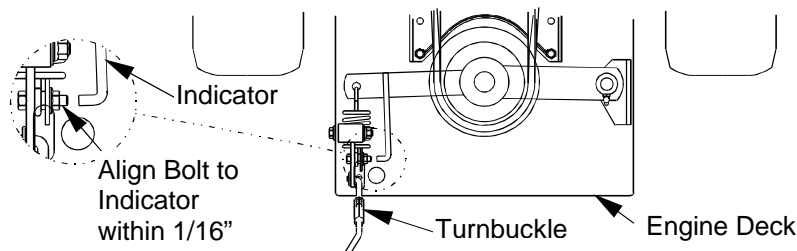

FIGURE 12
- c) Look through the round hole in the left rear corner of the engine deck to inspect blade clutching belt tension. Bolt on blade engagement linkage bellcrank and indicator arm should align within 1/16" (See Figure 12). Refer to section 5.2.2 for adjustment.
- With PTO engaged, adjust the linkage length by loosening the locknut on the turnbuckle and adjusting the turnbuckle so that the bolt on the bellcrank and the indicator arm align with each other within 1/16". See Figure 12. Tighten locknut against turnbuckle.